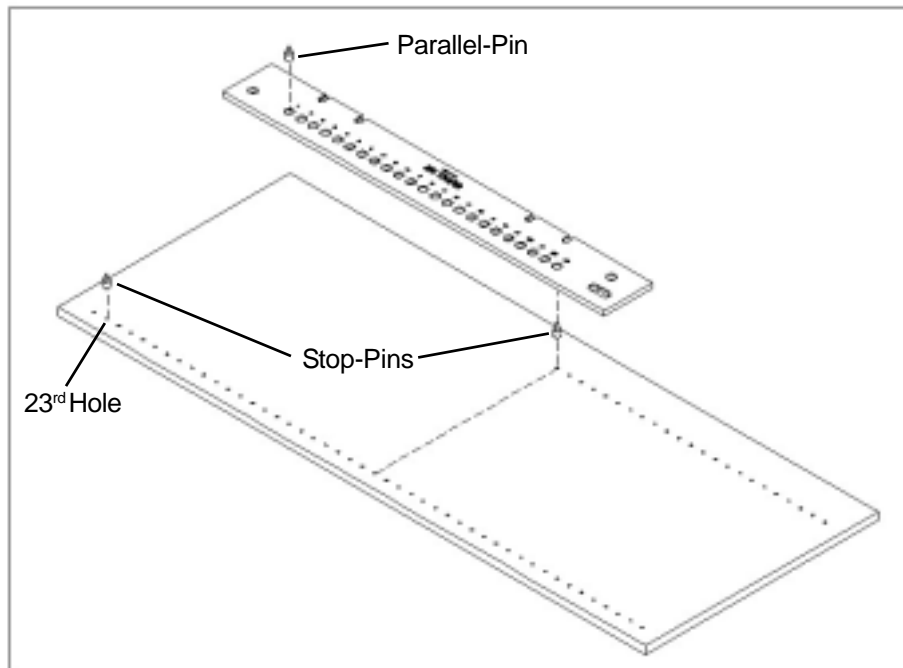

Figure 21
9. Place a stop-pin in the last rear hole that you've just bored and place the second stop-pin in the 23rd up from the hole that is directly across from the last rear hole as shown in Figure 21.